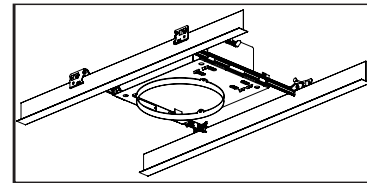

Figure 14
Step 3. Place frame into position and snap bar hanger foot with integral T-bar notch onto T-bars (Fig. 14) Lock in place. Additional holes are provided for securing with wire or screws if desired.